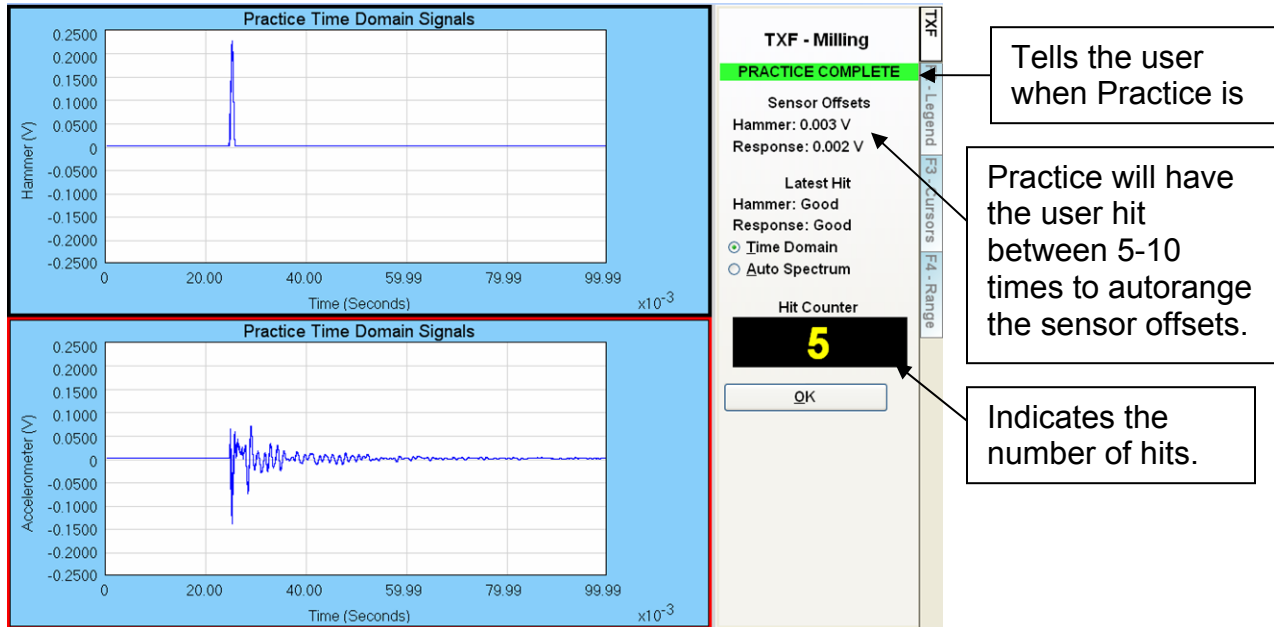

Figure 21: Practice
- To make sure that the sensors are working. During the practice hits, the user can see the hammer plot (top) and the accelerometer plot (bottom), as shown in Figure 21. This provides visual feedback that everything is working.